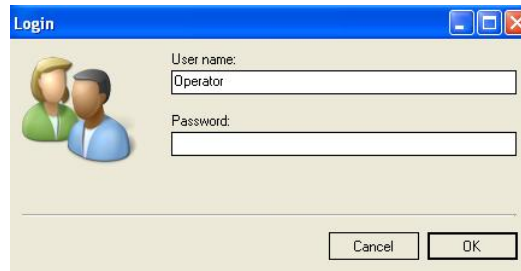

Fig. 1.5.1
1.5.1 Double-click on the  icon to start the **JTAG Manager** session. The Login pane (Fig. 1-5.1) is not relevant for the **ICT Viewer™** so simply click OK.